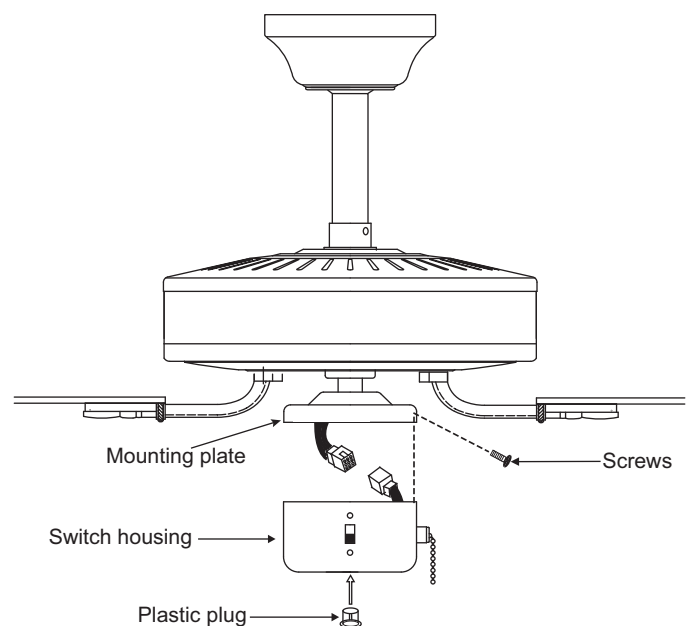

Figure 19
1. Install 2 x 9W LED bulbs (provided). (Fig. 19)
2. Attach the plastic plug to the switch housing. (Fig. 19)
3. Install the switch housing to the mounting plate with screws provided. (Fig. 19)